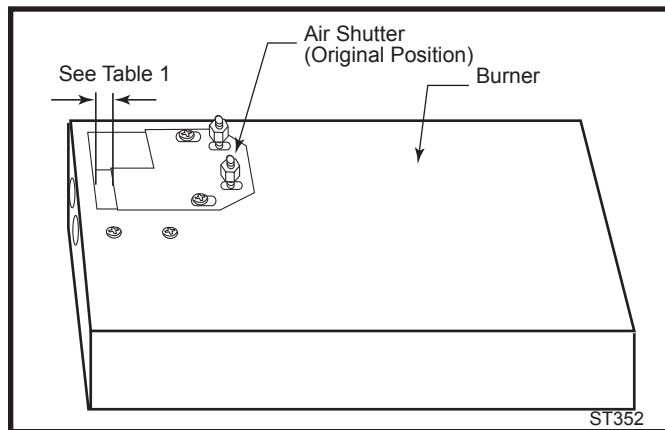

Fig. 39 Air shutter in original from-the-factory position.
8. The air shutter is located on the bottom of the burner to the left. (Fig. 39) Unfasten the two nuts holding the shutter in place. The shutter may be adjusted between the factory adjusted 1/2" to fully open.